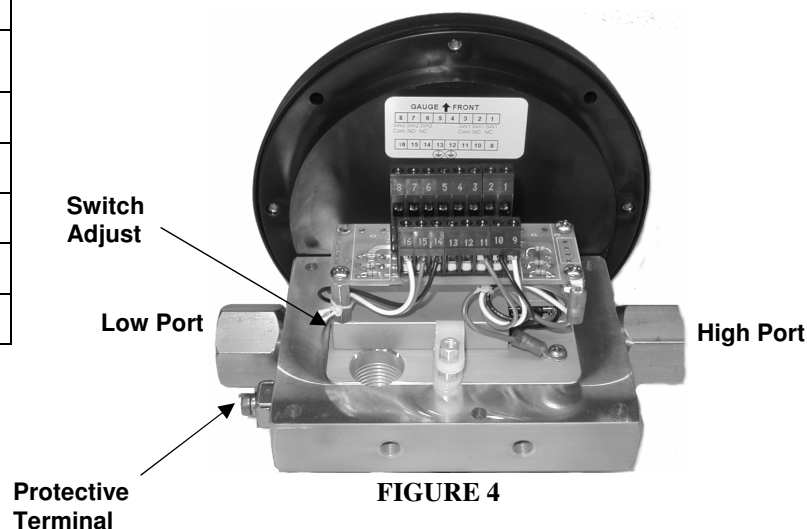

FIGURE 4
All switch types are field adjustable. The defined range of the adjustment is specified in Table I above. All switches come with a decal to identify adjustment direction to increase the set point. **Do not use excessive force when rotating the adjustment screw as the adjustment mechanism may be damaged (See Figure 4).**
- C. Check the reed switch interfaces to the terminal board for loose connections. For the power relay the reed switch(es) connect to the terminal strip on the underside of the PCB. For the reed switch outputs the reed switch(es) connect to positions on the bottom row of the terminal strip on the top of the PCB (see Figure 4).